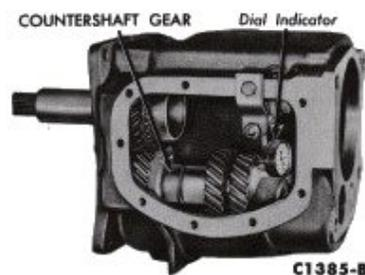

FIG. 23—Checking Countershaft Gear End Play
1. Place the countershaft gear in the case, aligning the thrust washer tangs with the slots in the case. Install the countershaft and check the countershaft gear end play (Fig. 23). Replace the thrust washers as required so that end play does not exceed 0.025-inch. Insert the remover tool in place of the countershaft and allow the countershaft gear